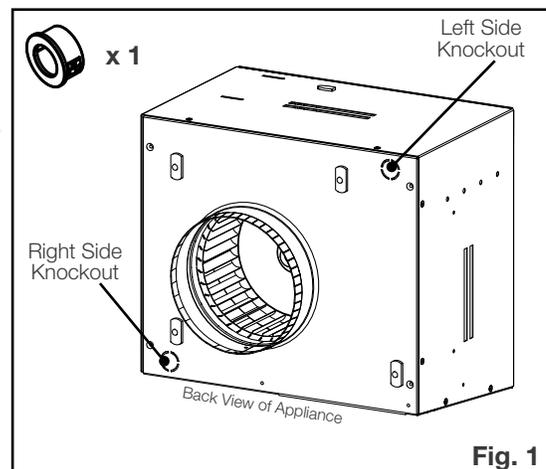

Fig. 1
2. Determine the desired location of the wiring knockout (**Fig. 1**), and then remove the left or right knockout accordingly. Install bushing (supplied) into knockout.